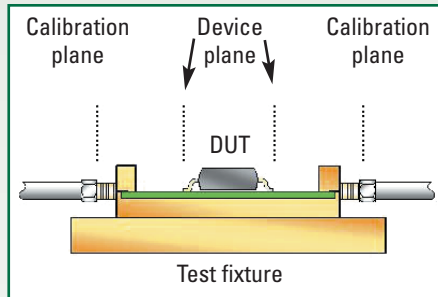

Figure 6. Measurement configuration of the non-coaxial device and test fixture
**A**t RF and microwave frequencies, it becomes difficult to directly measure devices with nonstandard connectors (for example, devices using surface-mount packaging). Often a test fixture is required to transition the network analyzer's coaxial connectors to the non-coaxial environment of the device under test. In this case, the calibration plane is not at the device plane fixture (see Figure 6), and the uncharacterized test fixture introduces a measurement uncertainty. By modeling the test fixture, a calculation can be performed to remove the effects of this transition. The fixture *de-embedding* procedure can result in very accurate measurements for the non-coaxial device under test without the need for complex test fixtures and non-coaxial calibration standards.